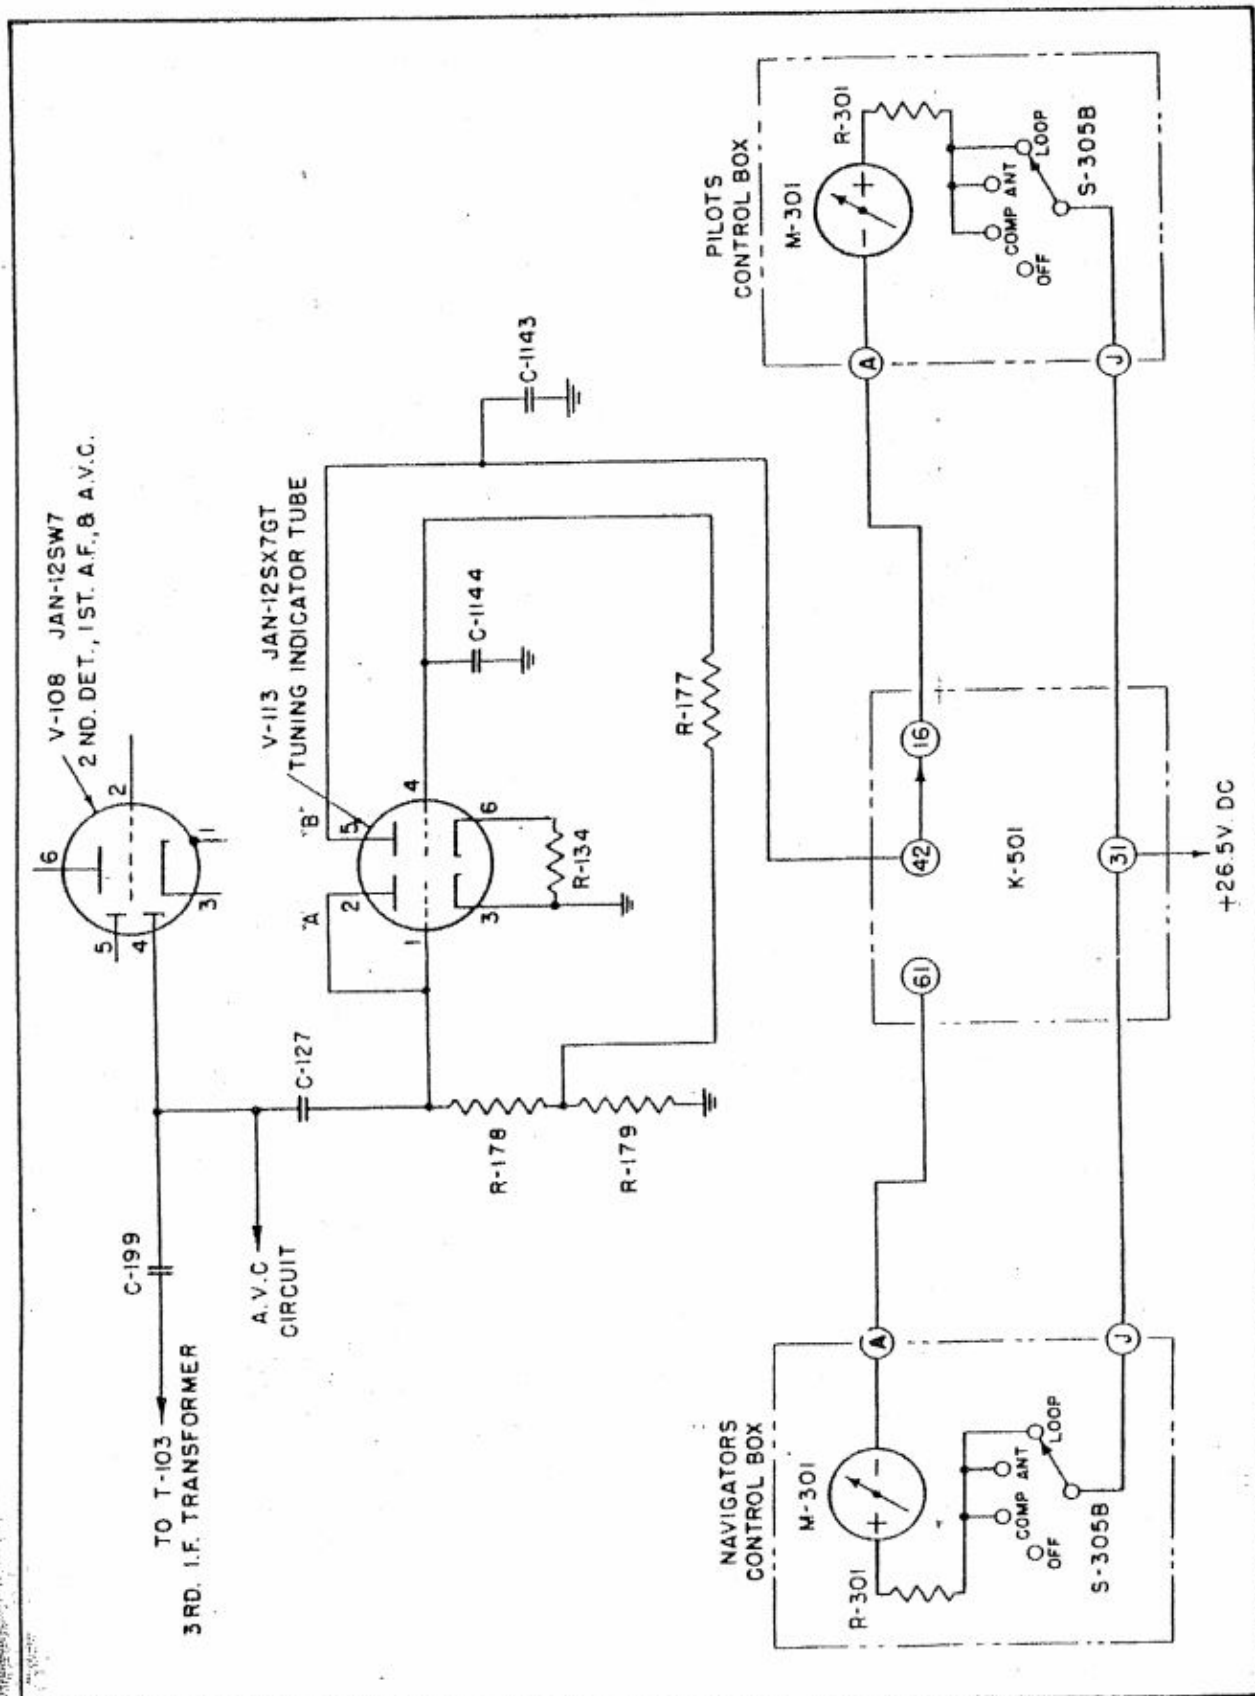
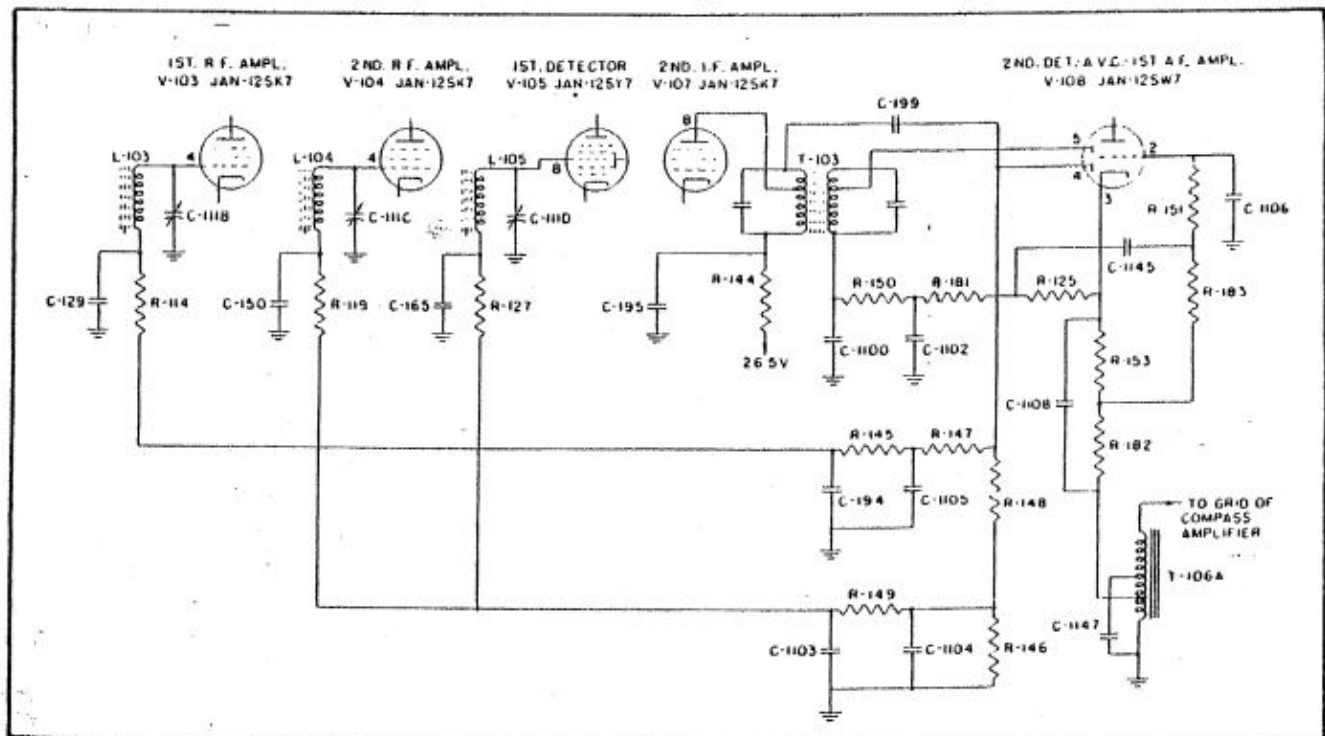

Figure 4-15. Functional Diagram—Tuning Indicator Circuit of Radio Compass Unit R-101/ARN-6
Figure 4-17. Functional Diagram—AVC, Detector, and First Audio Circuit
(2) The threshold sensitivity controls, R-1101, R-1109, and R-1108, are factory or service adjustments; they set the maximum RF gain by the cathode bias method, which can be reduced by audio control R-302C during loop or antenna reception. R-1101 is used in R-101/ARN-6, and R-1101, R-1107, and R-1108 are used in R-101A/ARN-6.
e. TUNING INDICATOR CIRCUIT. (See figure 4-15 or 4-16.)
(1) The output of the second IF stage is fed to diode No. 2 (pin 4) of V-108, through C-199. The rectified voltage is used for the AVC system, but the "ripple" component is fed through coupling capacitor C-127 to 1/2 of V-113, connected as a diode.
(2) The rectified output of V-113 appears across the load R-178, R-179; and a definite proportion of this voltage is applied to the grid of V-113B (in R-101/ARN-6) or V-110B (in R-101A/ARN-6) through the filter R-177 and C-1144.
(3) V-113B (of R-101/ARN-6) and V-110V (of R-101A/ARN-6) are DC amplifiers, and their plate current is measured by tuning indicator M-301.
(4) The result is that an increase of signal strength develops a higher voltage across the load of V-113A (in R-101/ARN-6) or V-113B (in R-101A/ARN-6); this gives a higher negative grid voltage on V-113B (in R-101/ARN-6) or V-110B (in R-101A/ARN-6); this reduces the current in M-301, which causes the pointer to move to the right. (M-301 has a right-zero scale instead of the usual left zero.)
f. AVC CIRCUITS. (See figure 4-17.)
(1) The output of the second IF stage is fed to diode No. 2 (pin 4) of V-108, through C-199. The rectified voltage appears across the series load resistors R-148 and R-146.
(2) The full AVC voltage across both R-148 and R-146 is filtered through R-147, C-1105, R-145, and C-194. This filtered AVC voltage is applied through R-114 to the grid of the first RF amplifier, V-103.
(3) A selected portion of the AVC voltage is taken from the junction of R-148 and R-146, and is filtered through C-1104, R-149, and C-1103. This filtered AVC voltage is applied through R-119 to the grid of the second RF amplifier, V-104, and through R-127 to the signal grid of the first detector, V-105.
g. SECOND DETECTOR AND FIRST AF AMPLIFIER. (See figure 4-17.)
(1) Diode No. 1 (pin 5) of V-108 is the detector, which rectifies the signal taken from the secondary of T-103. The resulting AF voltage appears across the diode load R-150, R-181, and R-125, which serves also as an IF filter system in combination with C-1100 and C-1102.
(2) That portion of the AF voltage which appears across R-125 is applied to the grid of the triode, through C-1145 and the additional filter R-151, and C-1106.
(3) The grid is returned through grid leak R-183 to the cathode system to such a point that R-153 is a cathode bias resistor.
(4) Resistor R-182 is not involved in this system. Its function is to increase the cathode potential for reasons applicable to the AVC system only.
(5) Audio output, except the 100-cycle loop-control signal, is taken from the triode plate in the usual way, described in paragraph b, immediately following.
(6) The 100-cycle component of the plate current, used for loop control, is taken from the cathode circuit and passes through a portion of T-106A, where it is resonated by C-1147. The output of T-106A then goes